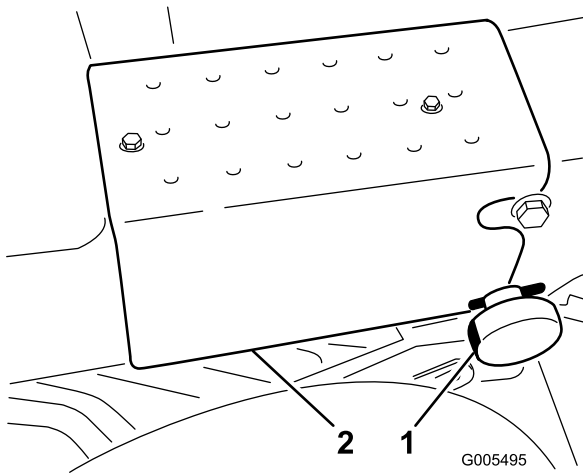

Figure 7
5. Pivot the steering arm to the upright operating position (notches). Secure with locking knob and cotter pin (Figure 7).
6. Mount right step to frame with 2 self tapping screws (Figure 7).